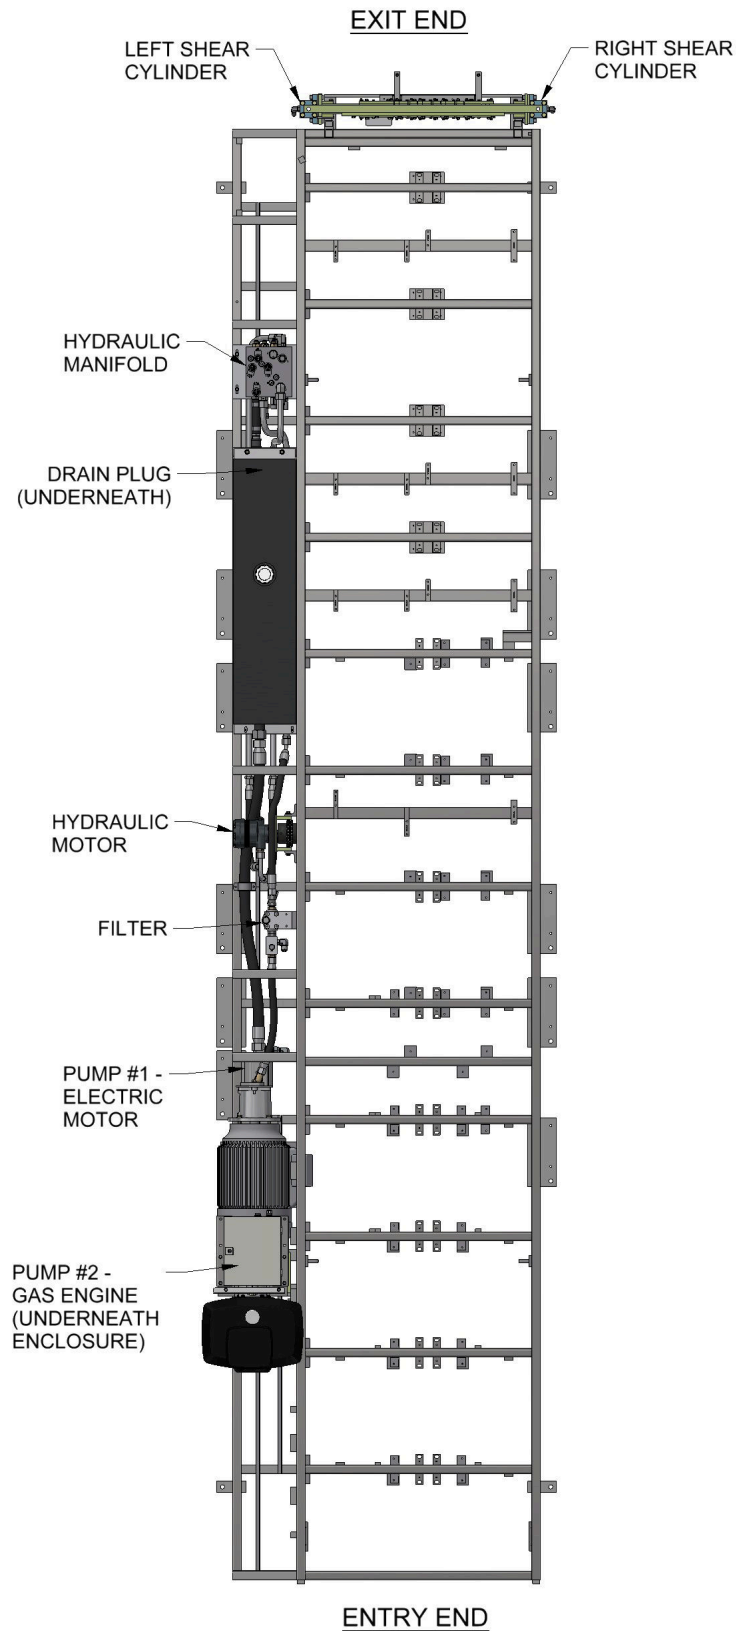

Figure 17: Hydraulic System – Overview
(Figure 17)
2. Locate the Drain Plug located on the bottom of the Hydraulic Tank as shown in Figure 17.